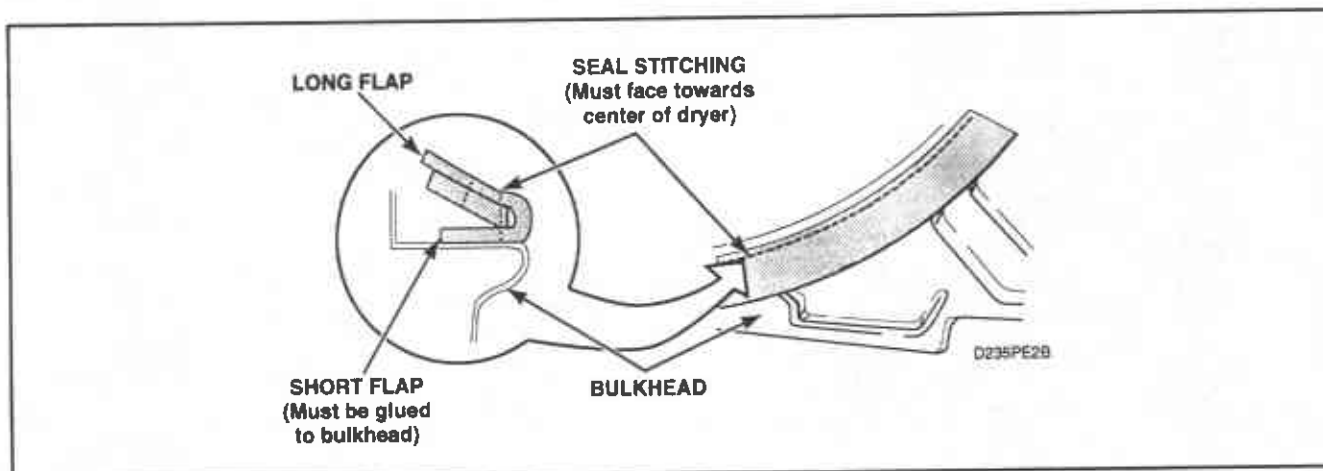

Figure 39
j. **Front Cylinder Seal (Figure 39)**
- (1) The stitching on the seal must face towards the dryer center, *Figure 39*.
- (2) The short flap, *Figure 39*, must be glued to the bulkhead and the long flap left loose.